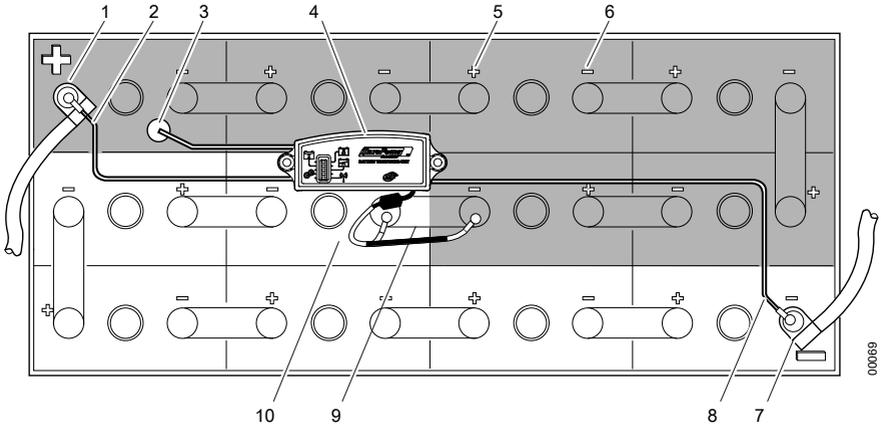

Fig. 1 Access™ BMU installed on the battery
10. Connect the battery monitoring unit's red cable (Fig. 1 pos) to the battery's positive terminal (Fig. 1 pos).
cable (Fig. 1 pos) from the battery's positive terminal.